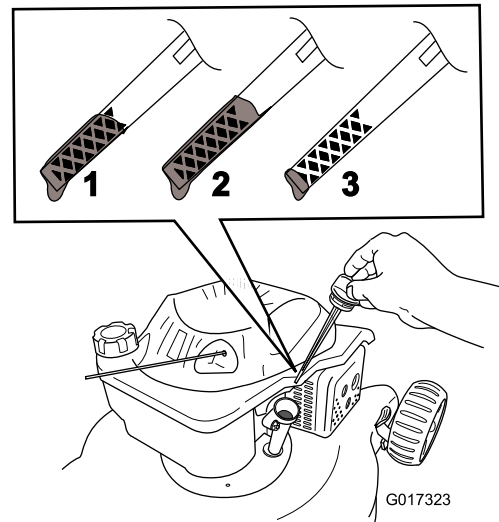

Figure 9
2. Remove the dipstick (Figure 9).
5. Read the oil level on the dipstick (Figure 9).